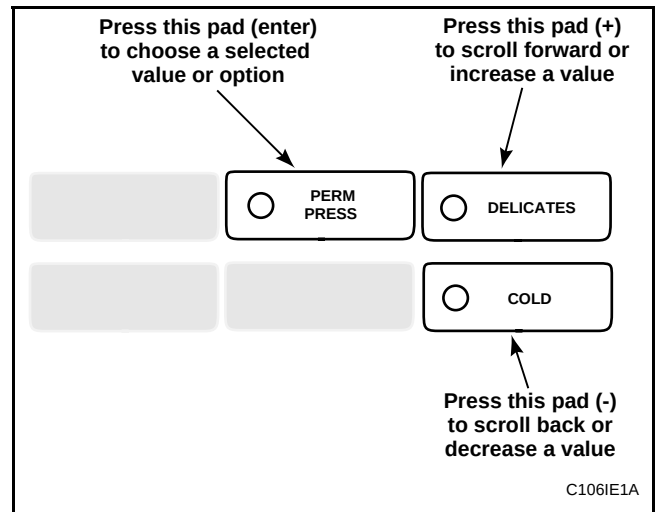

Figure 42
5. Press the DELICATES (+) or the COLD (-) keypad to increase or decrease the current number of minutes displayed in the VFD to the desired number of minutes. See **Figure 42**.